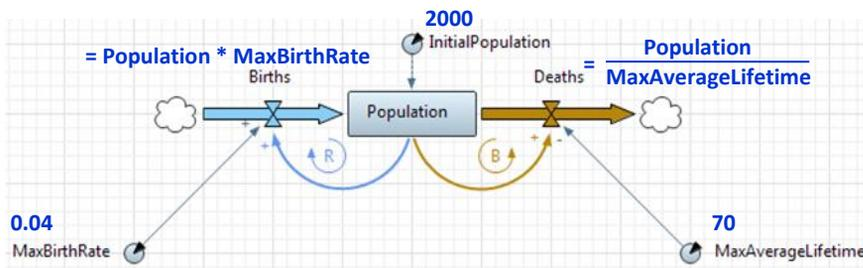

Figure 5.10 The population model. Unlimited resources
8. Create two more parameters: **MaxBirthRate**, with the default value 0.04, and **MaxAverageLifetime**, with the default value 70. Place the parameters near the **Births** and **Deaths** flows correspondingly, as shown in Figure 5.10.
29. Open the **System Dynamics** palette and drag the **Loop** icon inside the **Population** -> **Births** -> **Population** loop, as shown in Figure 5.10. Change the loop type to **R** (reinforcing).